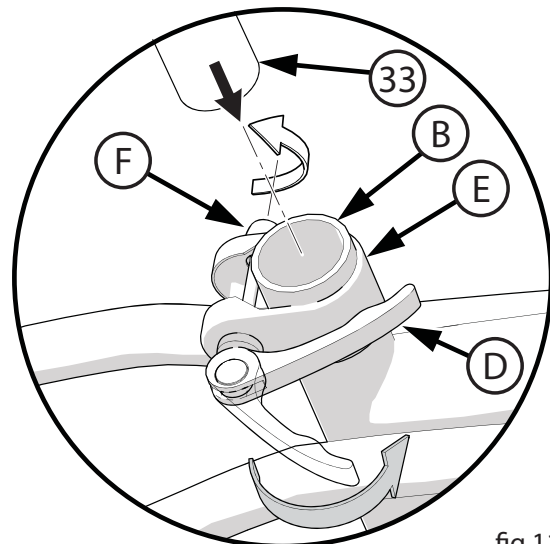

fig 11
- Open and close the Quick Release Lever (D) with one hand while you turn the Adjusting Nut (F) with the other hand (**fig 11**).
- Push the Quick Release Lever (D) to the “close” position (**fig 11**).
- When in the “close” position, make sure the Quick Release Lever (D) lays against the Seat Post Clamp (E).
- The tightening torque of the Quick Release Lever (D) should be tight enough so that the seat does not move during normal operation.